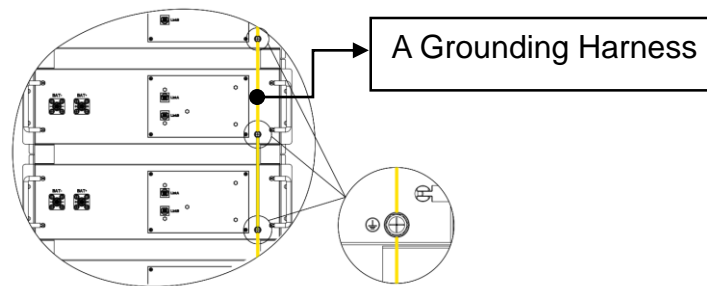

Figure 3.6 Earth connection of two adjacent battery boxes in one row
(1) Use A grounding harness (5619100041311) to connect ground protection points of two adjacent battery boxes. This type of harness is also used for the ground connection from battery box to control box (Figure 3.6).